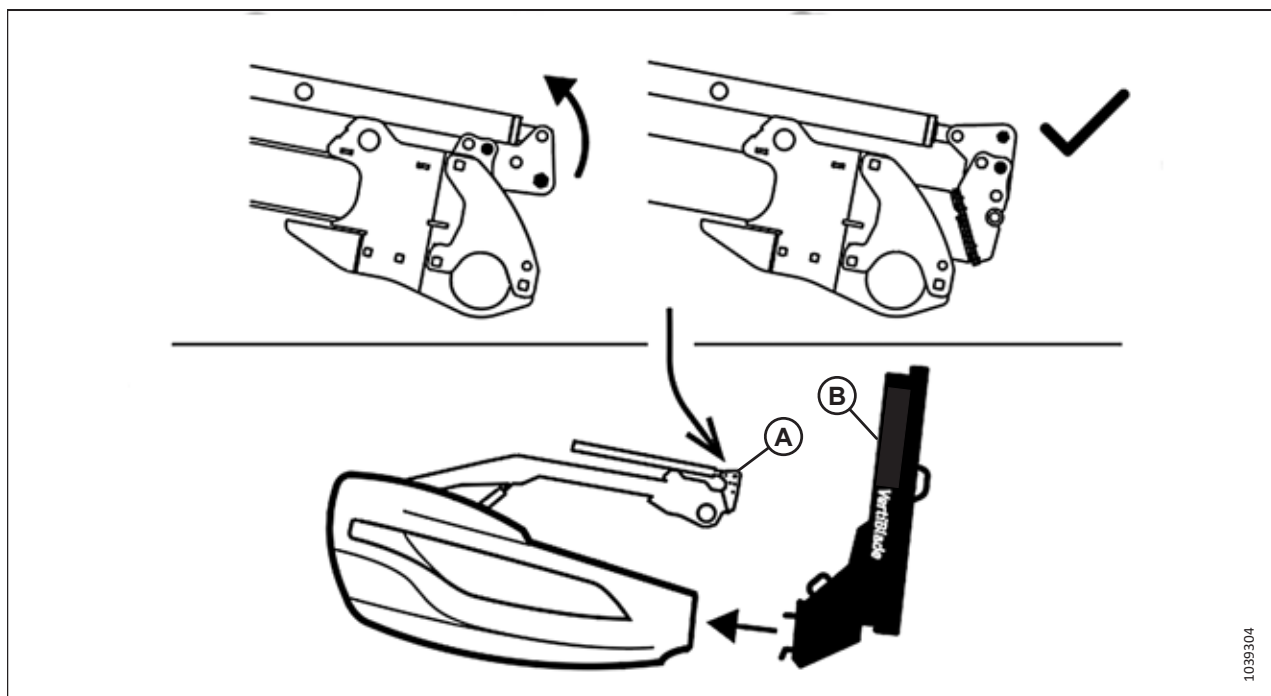

Figure 3.47: Reel Position with Vertical Knife Option Installed
To prevent contact between reel arm (A) and vertical knife (B), retract the reel fore-aft cylinder position as shown in Figure 3.47, page 89 before installing the vertical knives.
3. Remove hairpin (A) securing the multi-tool to the bracket on the left endsheet.
4. Remove multi-tool (B). Reinstall the hairpin.